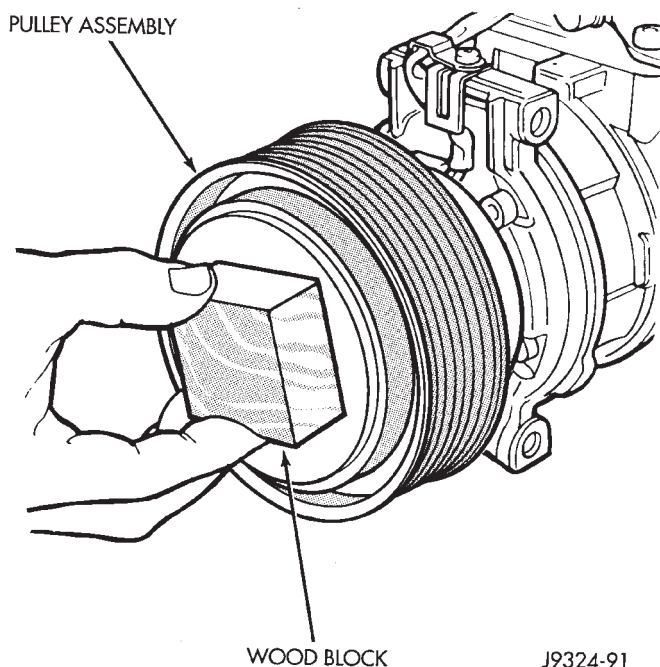

Fig. 5 Installing Pulley Assembly
(3) Install pulley assembly to compressor. If necessary, tap gently with a block of wood on the friction surface (Fig. 5).